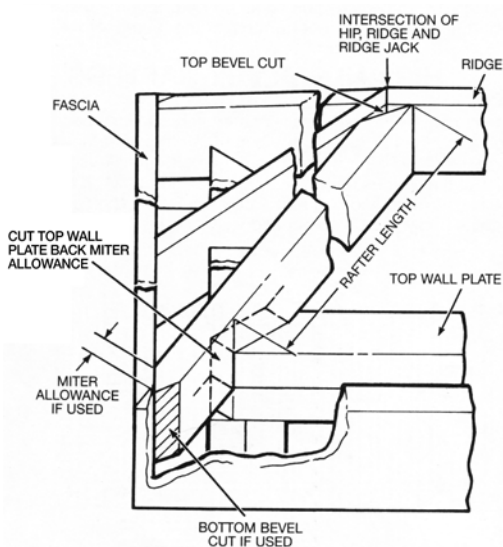
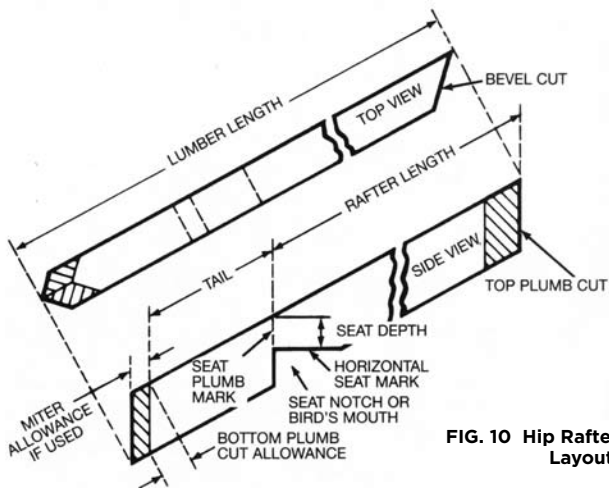

FIG. 9 View of Hip Rafter Layout.
FIG. 10 Hip Rafter Layout.
NOTE: If a miter is desired, add for hip or val miter allowance from the tables (see Figures 10 and 13).
STEP 1. TOP PLUMB CUT: The square is used in the same manner as in Step 1 of the common rafter top plumb cut. But now, read the Inch-Rise on the Hip-Val scale instead. Remember that the top plumb cut is a bevel cut and that opposite rafters will have opposite bevel cuts (see Figures 9 and 10). Therefore when placing the square on the rafter, place it on the long side of the bevel (the bevel cut will be explained in Step 4).
STEP 2. SEAT NOTCH: Measure the rafter length down along the top of the rafter and make the seat plumb mark in the same manner as you did for the common rafter (in our example it is 20' 3-7/8"). Next, measure along the seat plumb mark the seat depth and using the dashed line on the square, draw a perpendicular line for the horizontal seat mark (see Figure 10). Be sure all horizontal cuts for all rafters are the same distance from the top edge of the rafter at the wall line. For the proper fit of the hip rafter, cut the top wall plate corner off (as shown in Figure 9). This allows Hip seat notch to set in against a full flat corner, rather than against an outside point.
used, make another plumb mark on the other side of the rafter just opposite of the bottom plumb mark (see Figure 10).
STEP 4. CUTTING HIP RAFTER PATTERN: With your saw set at 45° , cut the top plumb cut, making sure the top bevels are opposite for opposite rafters. Setting the saw at 45° automatically gives the plumb cut and the side cut bevel. Make bottom plumb cut on a 45° angle if miter is used. If a bevel is not needed, set saw at 90° . The seat notch is made with the saw at 90° (see Figures 9 and 10).
Now mark across top of ridge (as shown). This mark will be the center of the two intersecting hips. If a common rafter is to be used, the ridge will be cut off at this mark and the common rafter butted up against it (see Figure 9). If no common rafter will be used, cut the ridge about 2" longer. This will allow you to nail through the ridge into the hip.